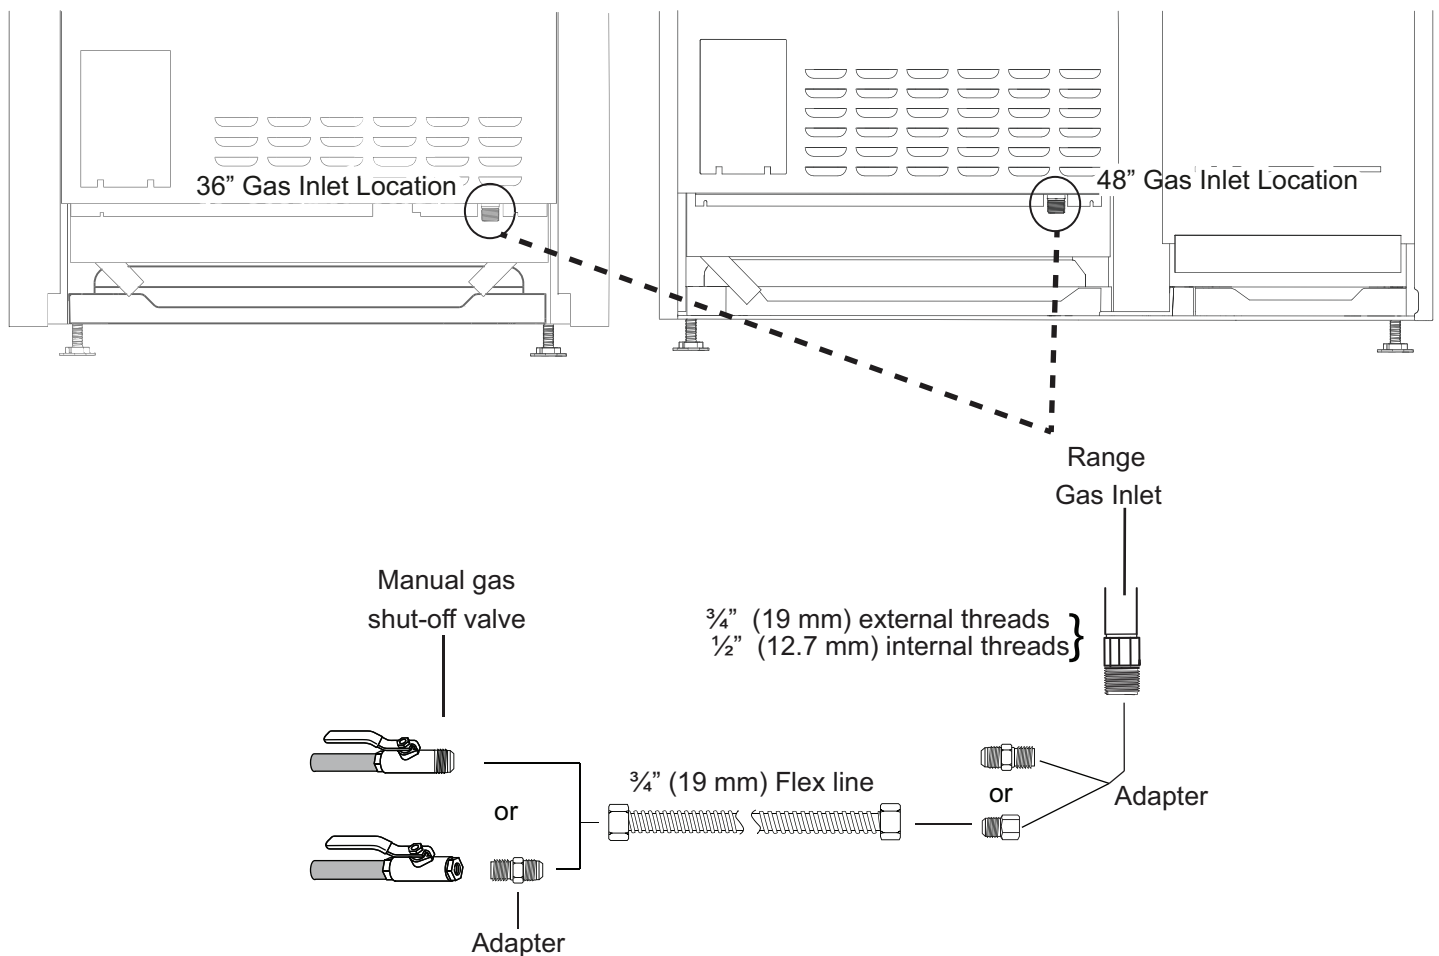

Figure 13: Gas Supply Connection
1. A manual gas shut-off valve (*Figure 13*) must be installed external to the appliance, in a location accessible from the front, for the purpose of shutting off the gas supply. The supply line must not interfere with the back of the unit. Make sure the gas supply is turned off at the manual shut-off valve before connecting the appliance.
2. Use a 3/4" (19 mm) flex line to connect between the gas supply and the appliance gas inlet. The appliance gas inlet connection is 1/2" (13 mm) NPT (*Figure 13*).